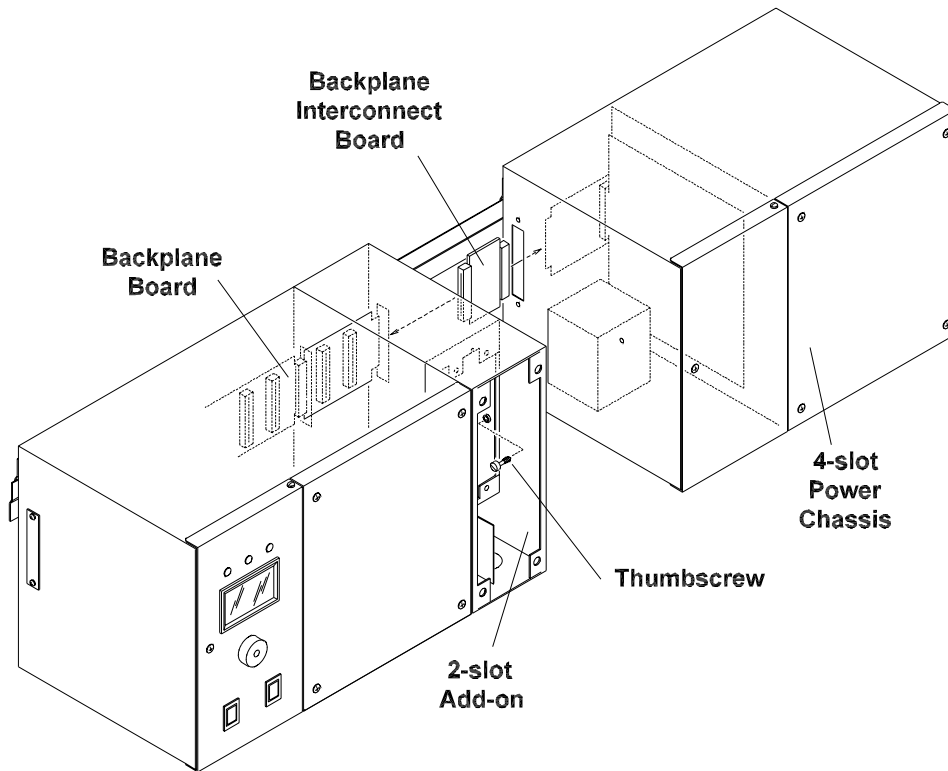

Figure 3.8 Connecting a 4-slot power chassis using the Backplane interconnect board
Step 6: Slide the 4-slot power chassis along the interlocking rail until both ends of the back-plane connector board mate. See *figure 3.8*.